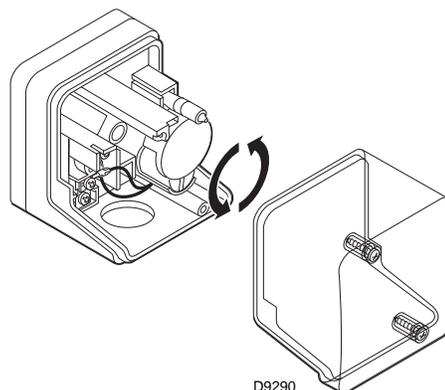

Fig. 48
- Adjust the min gas pressure switch (Fig. 48) to the start of the scale.
Adjust the minimum gas pressure switch (Fig. 48) after having performed all the other burner adjustments with the pressure switch set at the start of the scale.